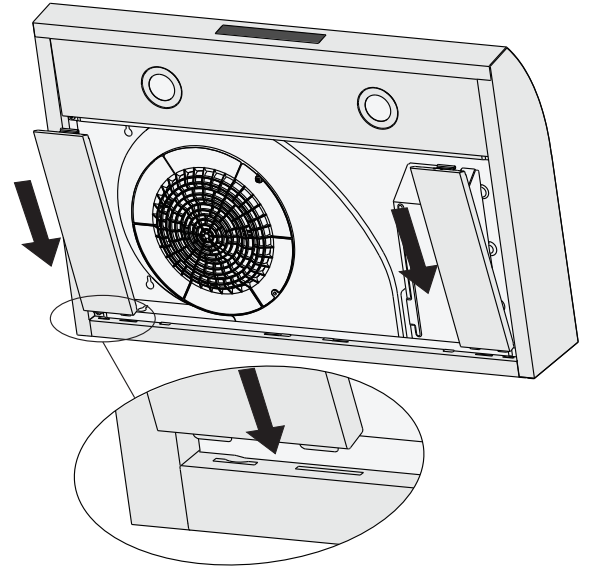

Figure 28
- Insert the pin of the cover plate into the lower part of the body (see Figure 28).